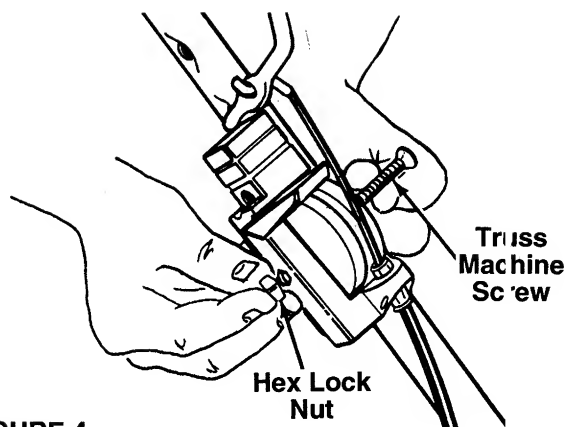

FIGURE 4.
5. Place the control box on the upper handle just below the end of the control handle as shown in figure 4. Secure with hardware removed in step one by placing hex lock nut into the indent on the inside of the control box. Screw the truss machine screw into the hex lock nut.